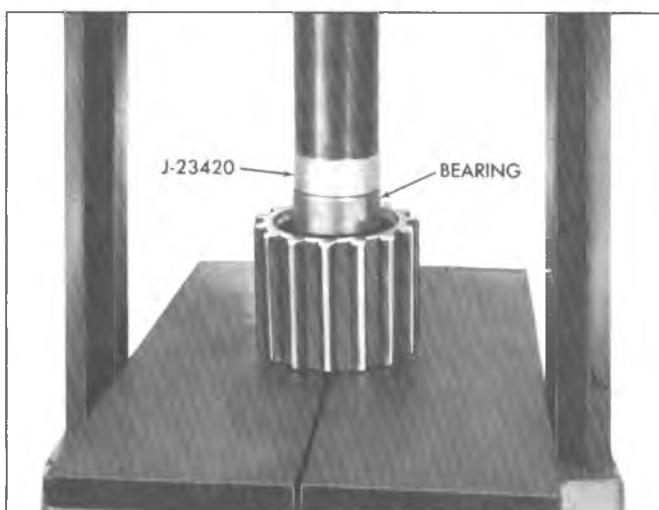

Fig. 8D-Installing Rear Output Shaft Pilot Bearing
1. Press new pilot bearing in bore of rear output shaft with bearing identification facing out using Tool J-23420 as shown in Figure 8D.